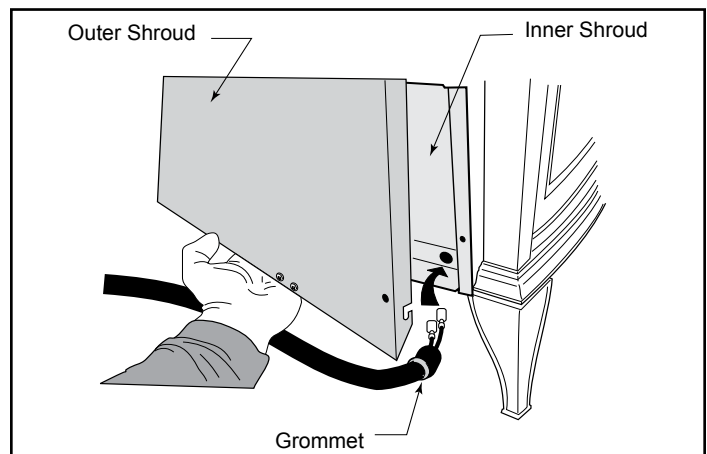

Figure 30 - Insert grommet into the inner shroud.
- Insert the grommet and wires into the large hole at the bottom right corner of the inner shroud. (Figure 30)
- Feed the snapstat wire leads through the grommet into the stove interior. Connect the two wires to the two (2) snapstat extension leads attached to the inner shroud.